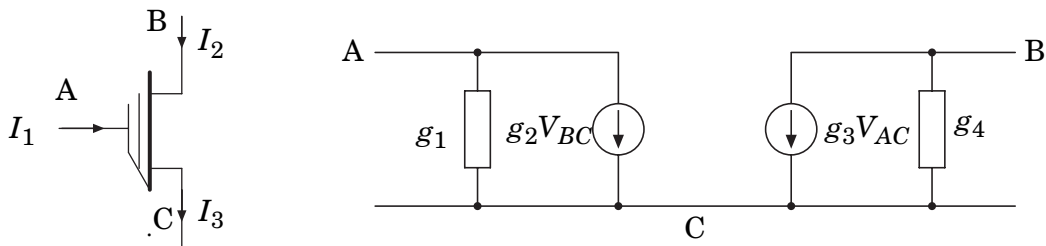

Figure 2.1 A new type of transistor a) the transistor symbol b) the small signal model.
- a) Derive a small signal model equivalent to the one shown in Figure 2.1 for the transistor. (7p)